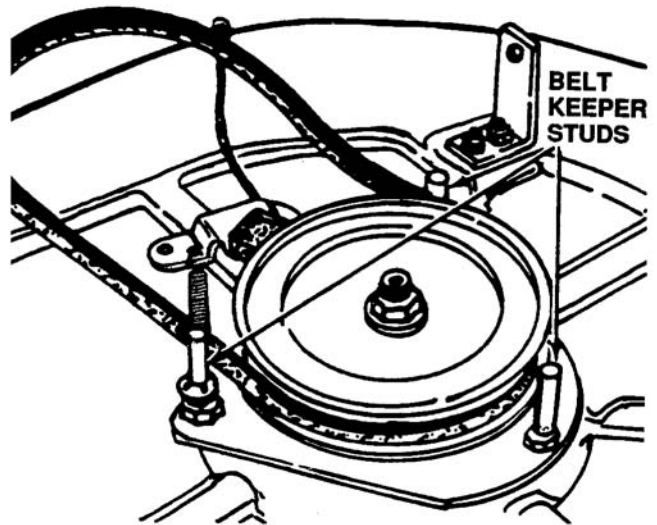

Figure 12-15. Removing Deck Drive Belt
- Remove the three belt keeper studs on the deck. See Figure 12-15.